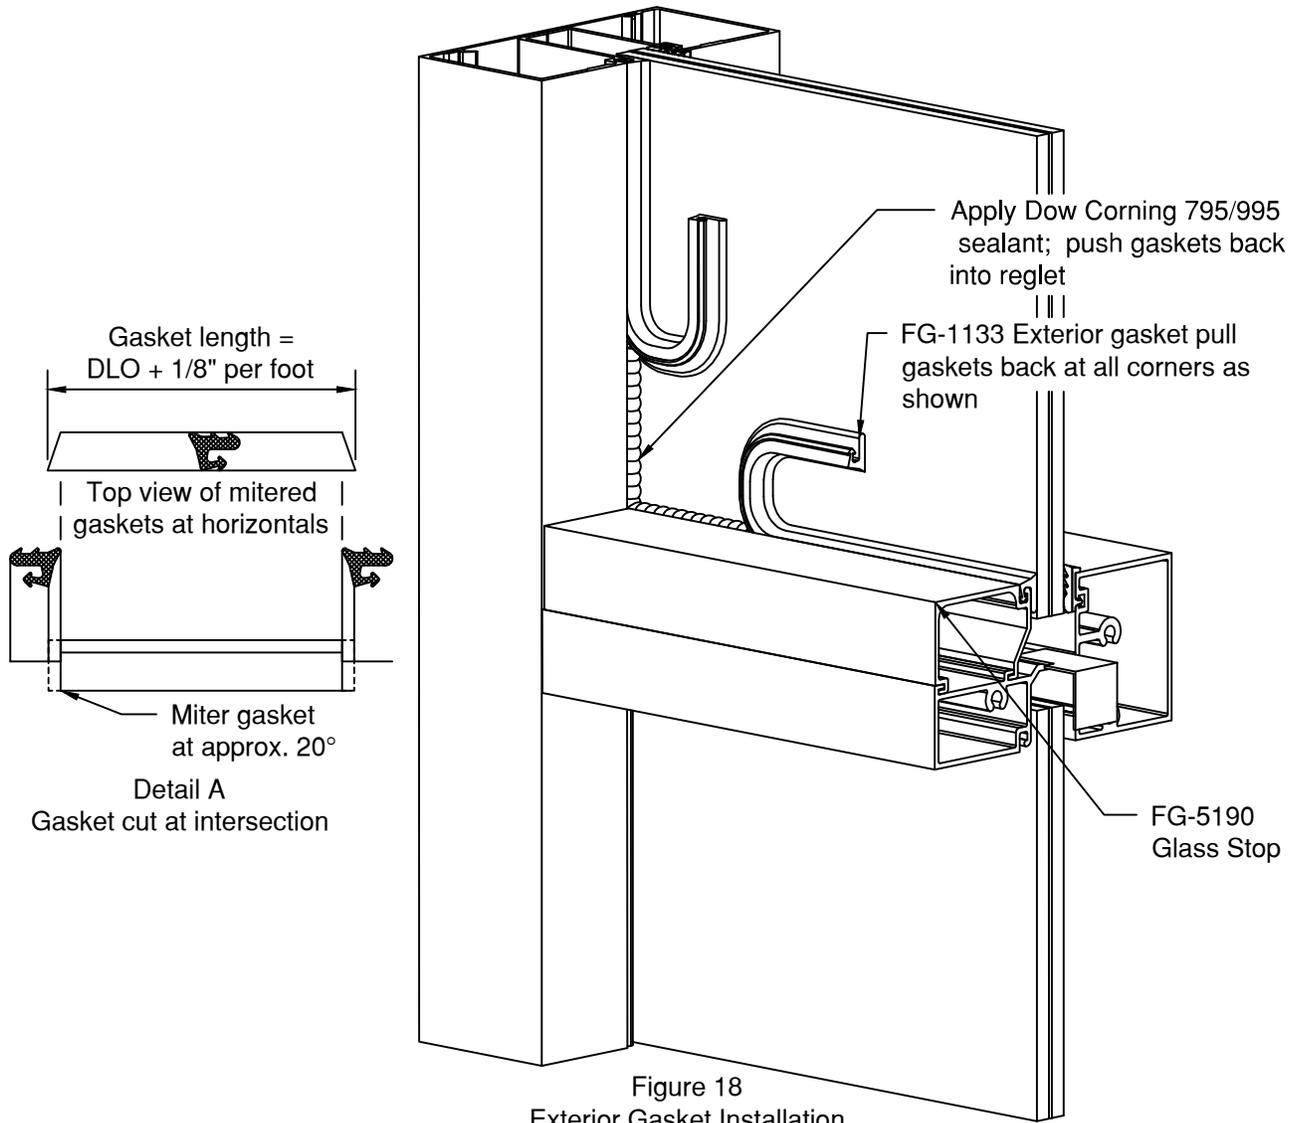

Figure 18
- 4D.2.5 After gaskets are pressed in to place, pull gasket from pocket as shown in Figure 18 above. Clean class and gaskets a minimum of 2" from each end with isopropyl alcohol. Apply Dow Corning 795/995 sealant see Figure18. Push gaskets into reglet, **See Figure 19 on Page 23.**